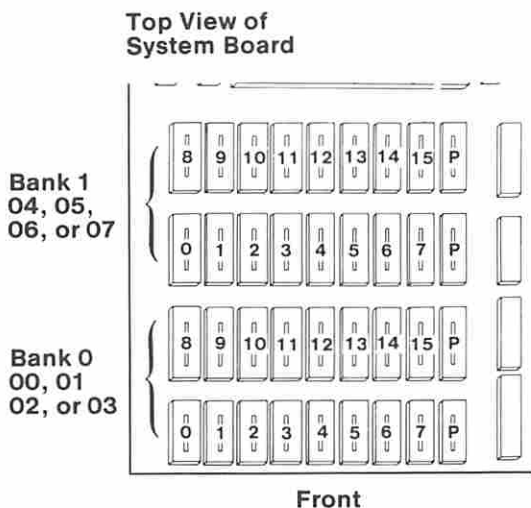

Figure 3. Type 1 System Board Memory
- Refer to Figure 3 on page 0200-6 and find the failing memory module identified by the error code.